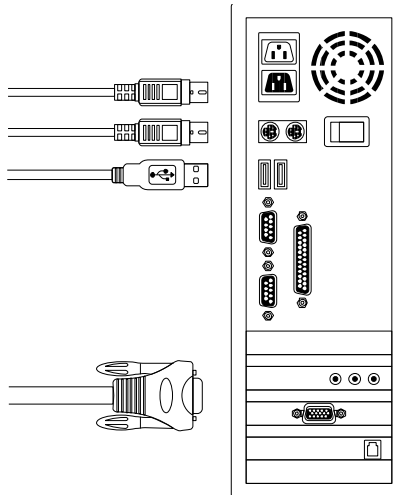

Figure 7: USB & PS/2 (Keyboard & Mouse) and VGA connected
- A. Connect the **USB, PS/2 (keyboard/mouse)**, and **VGA** connectors to your computer. We recommend that you connect all additional systems in this way. (Figure 7)
- B. Use the custom combo cable set (**See Figure 6**) to connect one or more Slave KVM switches to any PC port of the Master KVM switch. **Individual KVMs must be connected through a PS/2 & USB connection. (Please refer to Figure 7)**